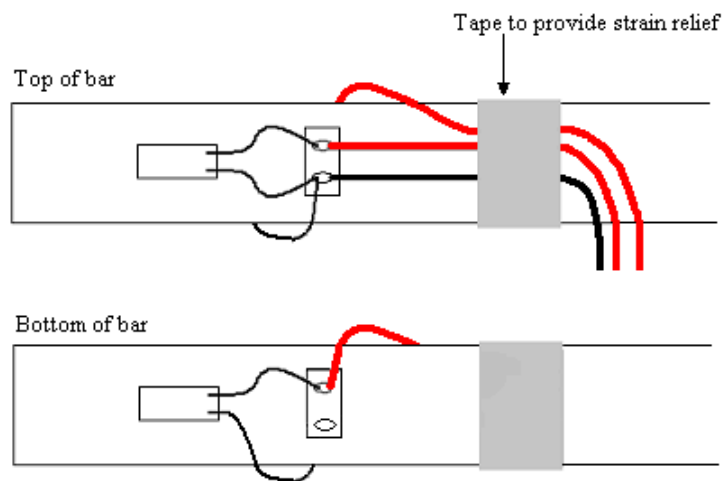

Figure 1 Strain gage lead wires
5. Three wires should be coming from the apparatus. A single wire must extend from one terminal or lead of each of the two strain gages. A third wire must extend from the junction of the other two lead wires (one from each strain gage) as shown in Figure 1. One method of creating the three leads is to use bondable terminal pads. Leads from the strain gages are soldered to the terminals. Then longer wires are soldered to these terminals and secured to the bar with tape.
The Wheatstone bridge circuit contains four resistances and a constant voltage excitation source. In a half-bridge circuit, two of the four resistors are strain gages (see Figure 1).